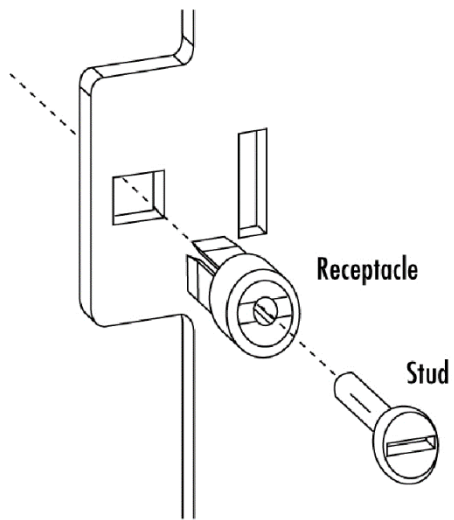

Fig.1
- C. Assemble and install the quarter –turn fastener as shown in Fig.1